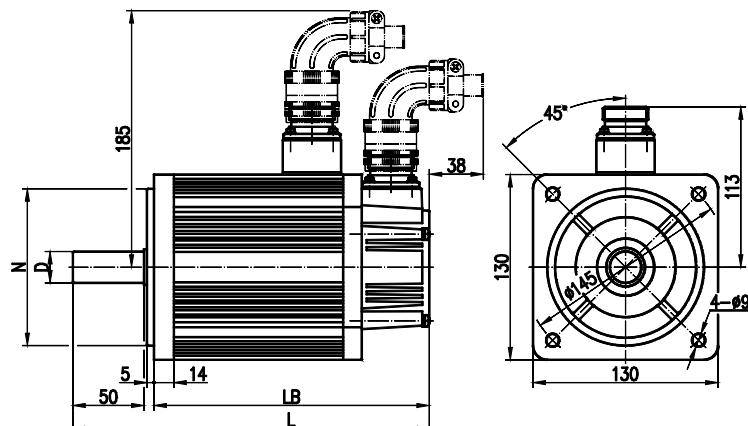

Fig. 3
5.3 Refer to figure 3 and list 8 about 130SJT series motor overall installation dimension.